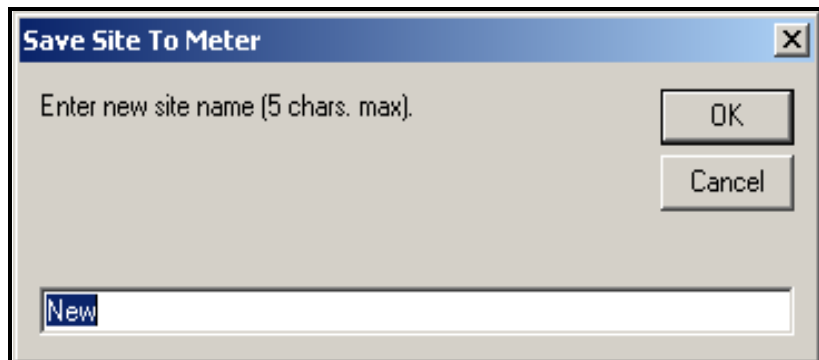

Figure F-16: Site Name Entry Window
2. A window opens similar to Figure F-16 below. Enter the desired name, and click [OK].